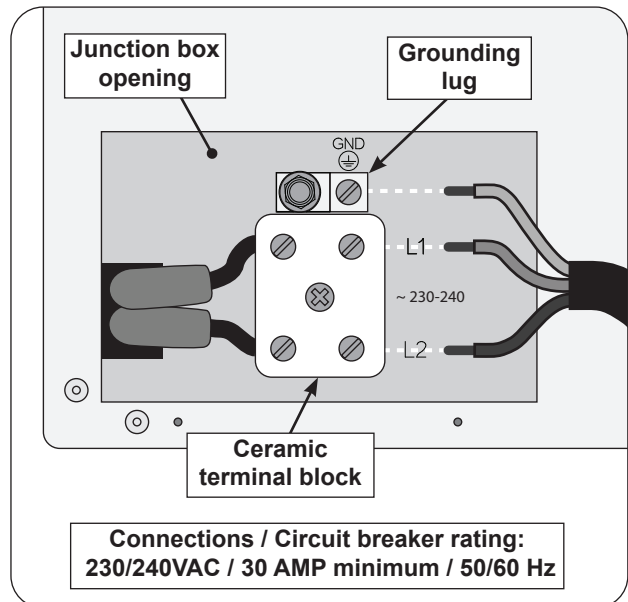

Fig. 28-2 Wire connection diagram
3. Connect the wires to the ceramic terminal block. Reference the wiring information below and Fig. 28-2.